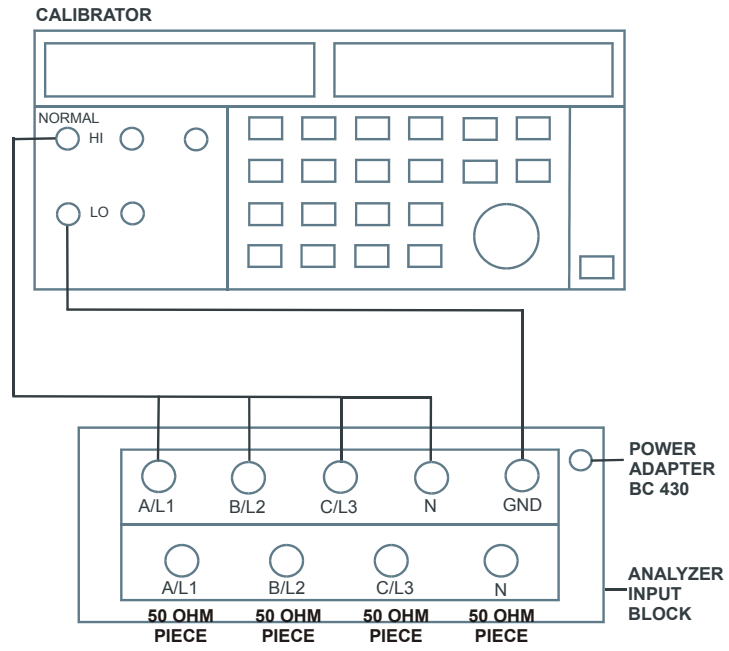

Figure 4-5. Checking the Channel isolation.
3. Short-circuit the four current inputs with a termination piece of 50 Ω or lower. Refer to Figure 4-5.